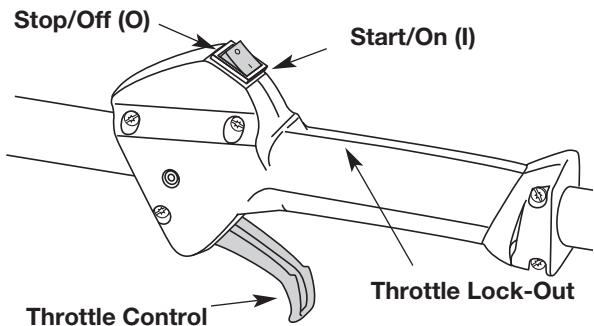

Fig. 19
- NOTE:** There is no need to turn the unit on. The On/Off Stop Control is in the ON (I) position at all times (Fig. 19).